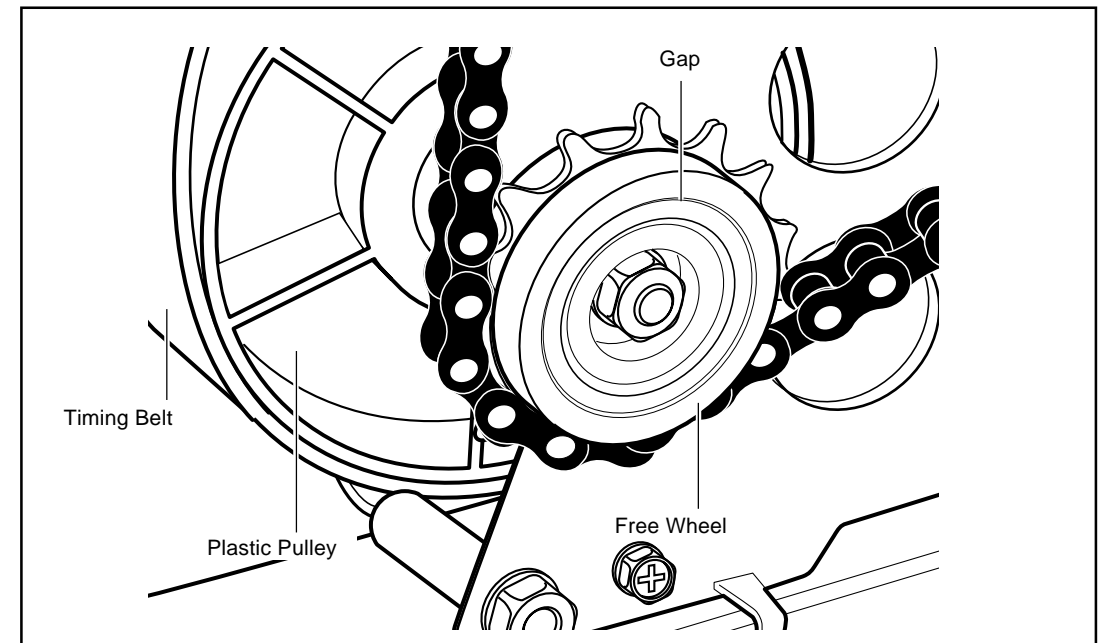

Fig. 2
- Spray CRC into the gap as shown in Fig. 2, and rotate the pedal in forward and backward directions.